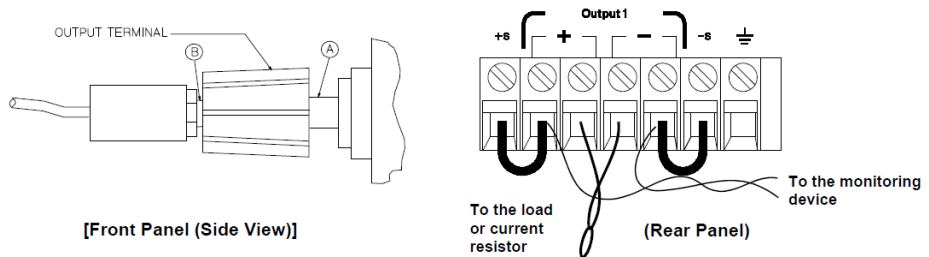

Figure 8-2 Front/ rear panel terminal connections
When measuring Vrms ripple and noise, the monitoring device should be plugged into the front of the terminals at (A) in Figure 8-2. Use the vertical mini-probe socket and the 1:1 voltage probe to connect the monitor device to the power supply. To reduce the measurement error caused by common mode noise, it is recommended to twist the connection wire between the mini-probe and the output terminals. The load resistor is connected to the terminal at (B) in Figure 8-2. Twisted leads between the load resistor and the power supply help reduce noise pick-up for these measurements.